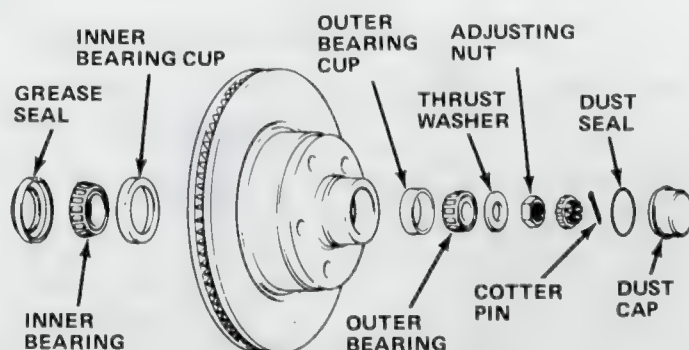

Fig B-9 Typical Front Wheel Bearing Assembly
The front wheel bearings are the tapered roller bearing type (fig. B-9). Clean all parts in a suitable solvent. Inspect bearings and cups for signs of excessive wear, pitting, brinelling or overheating, and replace if necessary. Lubricate the bearings with extreme-pressure (EP), lithium-base, waterproof, wheel bearing grease. Be sure to force grease between rollers.